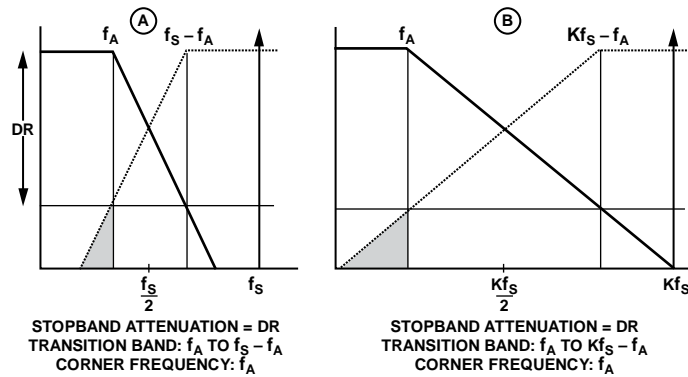

Figure 25. Oversampling Relaxes Requirements on Baseband Antialiasing Filter
Figure 25 illustrates the requirements for an antialiasing filter for a baseband signal with a maximum frequency f_a , given a desired dynamic range of DR. This is a worst-case condition, because it assumes that full-scale signals can occur outside the bandwidth of interest, which is rarely the case. However, it is a good starting point.
The dotted regions indicate where the dynamic range can be limited by signals outside the bandwidth of interest. The requirements on the filter can be quite severe, especially if F_s is not much greater than $2f_a$, as shown in (A) in Figure 25.
Therefore, many systems rely on oversampling as shown in Figure 25 (B) to relax the requirements on the analog anti-aliasing filter. Sigma-delta converters are a good example of oversampling. Outputs of DACs are filtered with so-called "anti-imaging" filters that serve essentially the same purpose as the antialiasing filter in front-end of an ADC.